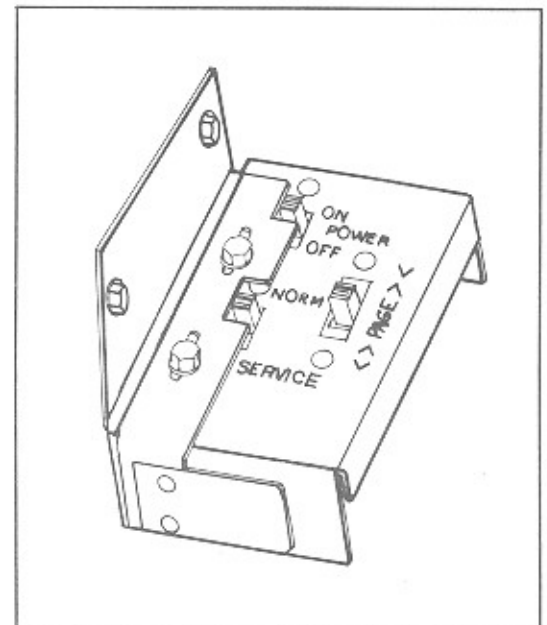

Figure 2-5 Service Switch
2. Move the SERVICE switch to the SERVICE position, if not already done (*refer to figure 2-5*).
To enter the SERVICE mode, open the top door and place the SERVICE switch (figure 2-5) in the SERVICE position. The phonograph display will say * SERVICE MODE *. At this point, the phonograph is in Security Level 1. To change any of the phonograph's stored information you must go to Security Level 2 or 3.